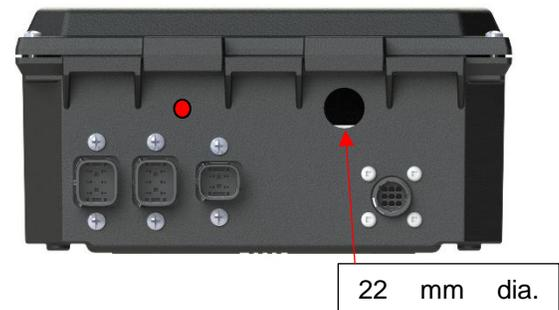

Figure 104
- ♦ A certified electrician must install a conduit connector that will be type 3 enclosure rated (*not included*). The hole diameter on the box is 22 mm (Figure 104). Refer to the *Wiring Diagram* in the *Appendix* section
- 4) Unpack the key switch and plug the harness into the AC control box. (Figure 104)